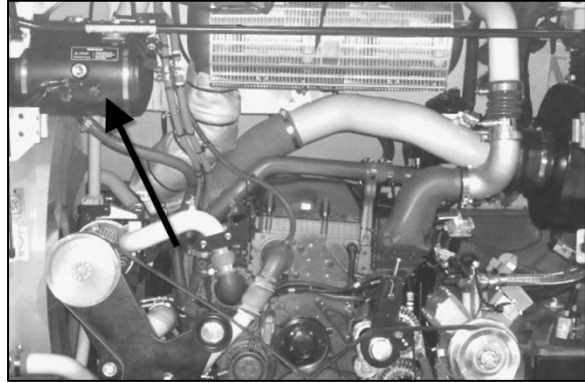

Figure 1
1. Locate the surge tank into the engine compartment (Figure 1).